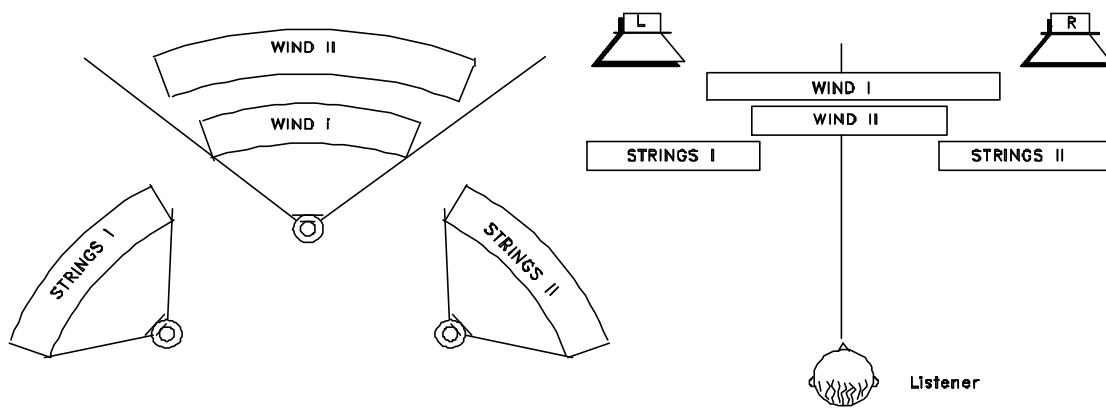

Fig. 30
3. Sectorial use of several equal coincident microphones (Fig. 30). The orchestra is devised in sectors; each sector is recorded with it's own microphone; the microphone signals are mixed together respective of the corresponding basis and direction control.